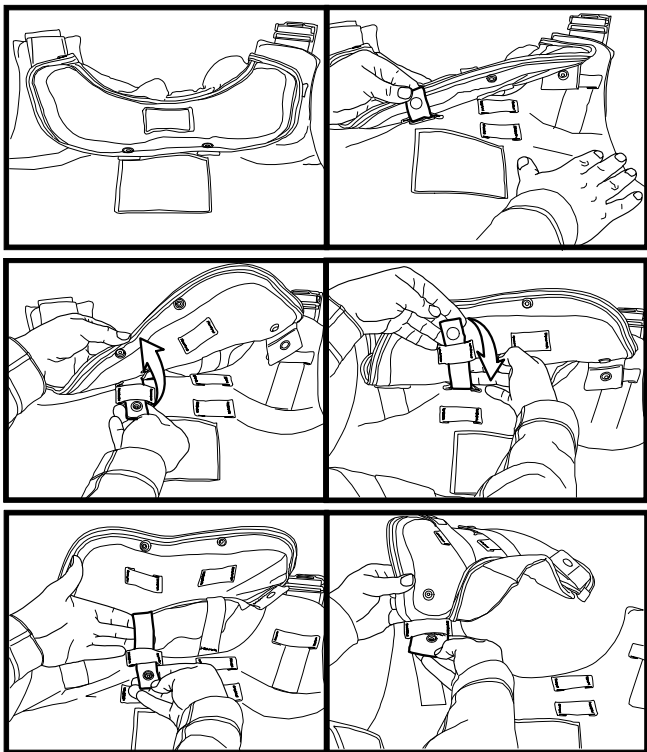

Figure 14. Removing Yoke/Collar Assembly.
- d. Remove yoke/collar from vest and remove yoke/collar ballistic inserts (Figure 14).